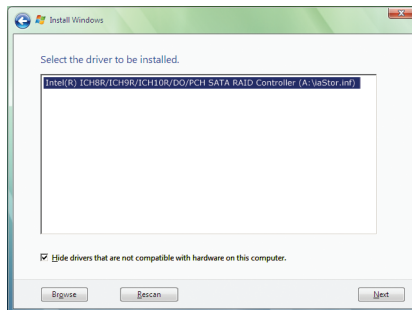

Figure 7
When a screen as shown in Figure 7 appears, select **Intel(R) ICH8R/ICH9R/ICH10R/DO/PCH SATA RAID Controller** and click **Next**.